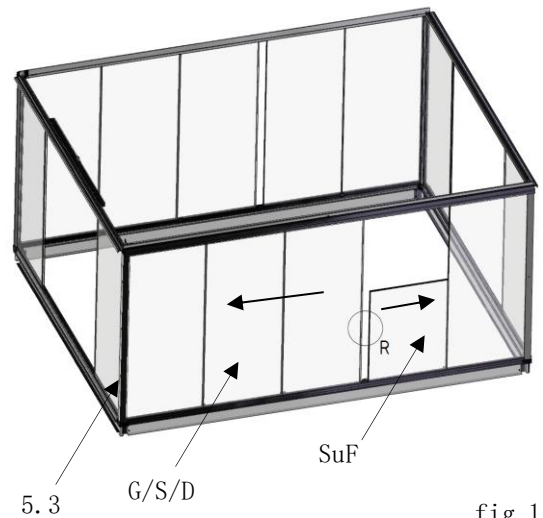

fig. 131
- side glazing (item SuF) should be secured with an aid to prevent it from tipping over or held by a second person! *fig. 131*